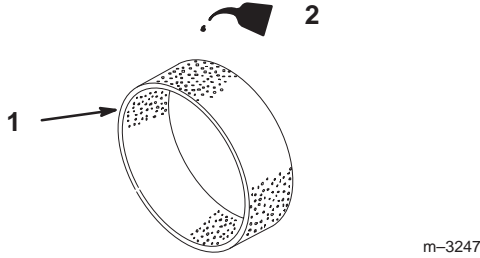

Figure 24
- Put one or two ounces of oil on the element (Fig. 24). Squeeze the element to distribute the oil.